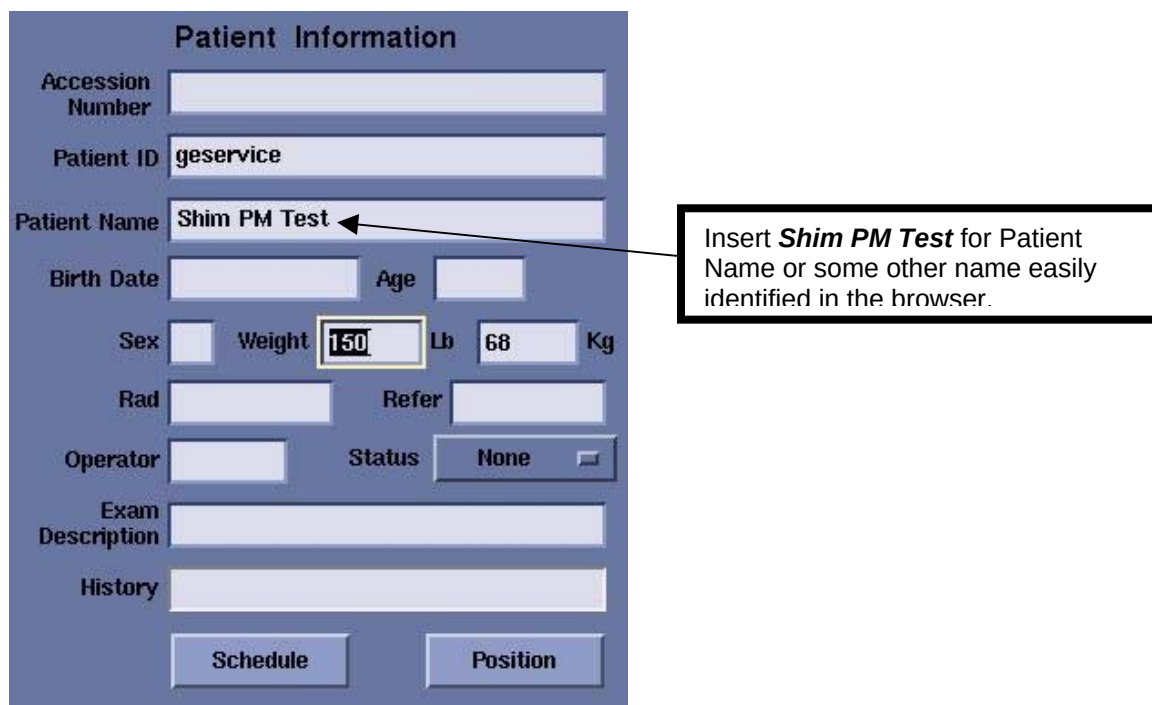

Figure 3
- To run the LVShim procedure, it is necessary to insert "geservice" in the Patient ID field and "150" in the Weight Lb field. Pick a Patient Name that will be easy to find in the browser for the Shim Test. (*Shim PM Test* is used for this example.) See Figure 3.